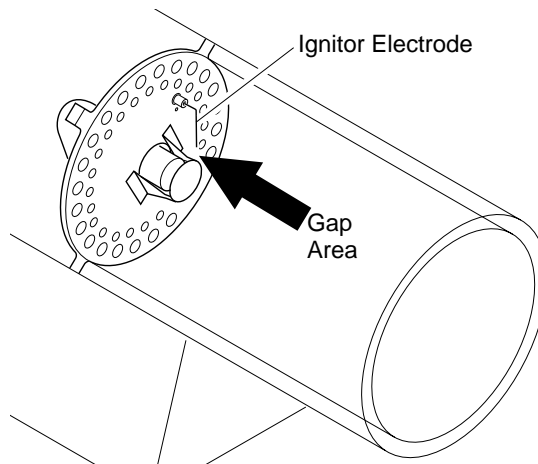

Figure 18 - Clearance between Ignitor Electrode and Target Plate
7. Set gap between ignitor electrode and target plate to .17" (see Figure 18).